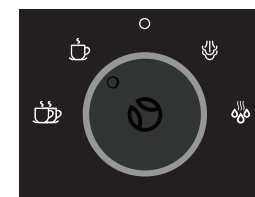

Fig. 2
6. Rotate the Dynamic Control Dial counter-clockwise to the Single Shot setting (see Figure 2). Press the Start Button to start the cycle.